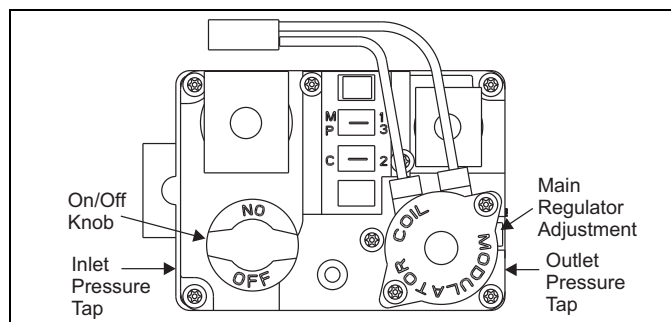

FIGURE 42: Gas Valve
Inlet and manifold gas pressure may be measured by connecting the "U" tube manometer to the gas valve with a piece of tubing. Follow the appropriate section in the instructions below. Refer to Figure 42 for a drawing of the locations of the pressure ports on the gas valve.
Follow the appropriate section in the instructions below. Refer to Figure 42 for a drawing of the locations of the pressure ports on the gas valve.
4. Refer to Figure 42 for location of pressure regulator adjustment cap and adjustment screws on main gas valve.